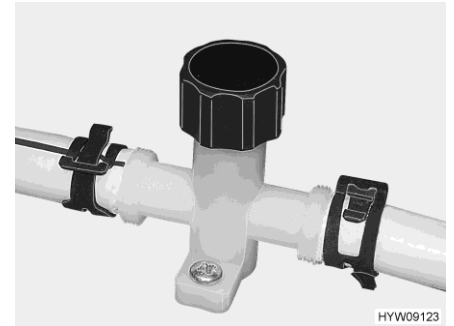

Fig. 172 Drain cock (water pipe)
- Close the drain cocks. In order to do this, turn the cap of the drain cock (Fig. 172) in a clockwise direction.